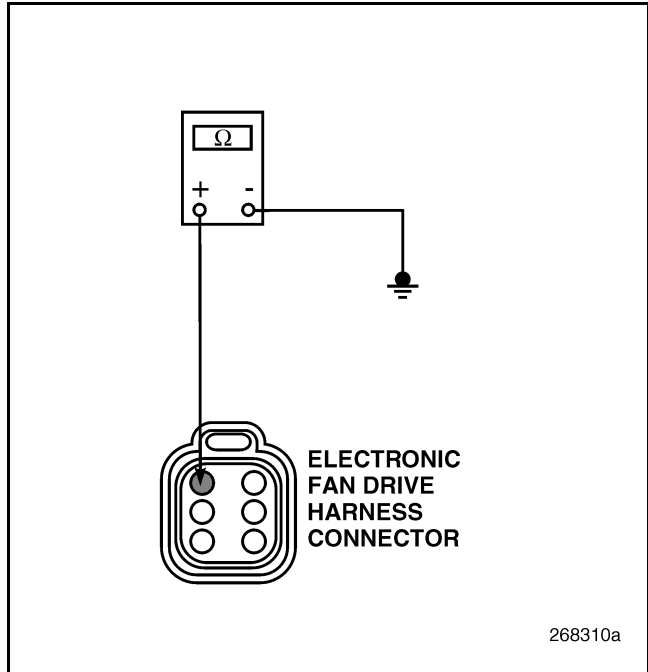

Figure 127
4. Check for continuity between electronic fan drive harness connector pin 1 and a good ground (see Figure 127).